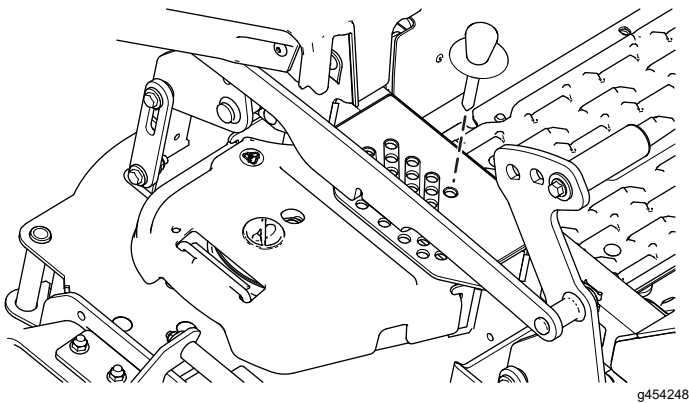

Figure 27
2. Insert the height-of-cut pin into the 127 mm (5 inches) height-of-cut position of the bracket (Figure 27).